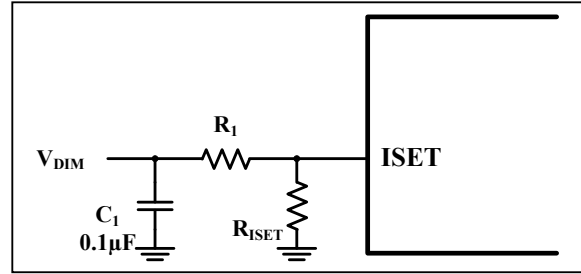

Figure 16 Analog Dimming
The IS31LT3117 can also be dimmed by a voltage source applied directly through an external resistor to ISET pin (as the Figure 16). The R_1 value can be chosen by below Equation (2):